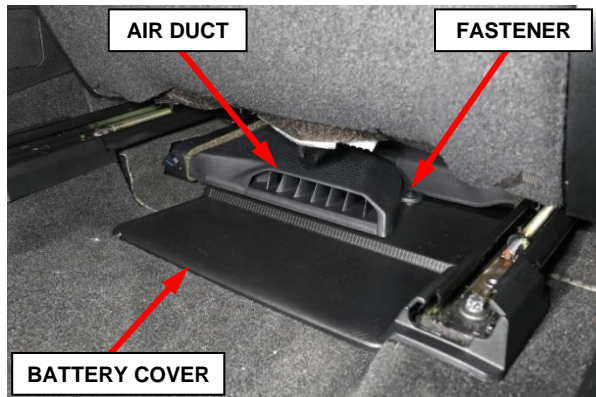

Figure 70 – Air Duct and Battery Cover
3. Under the front seats, remove the air duct fastener then remove the air duct (Figure 70).
4. Under the front seats, remove the battery compartment cover (Figure 70).